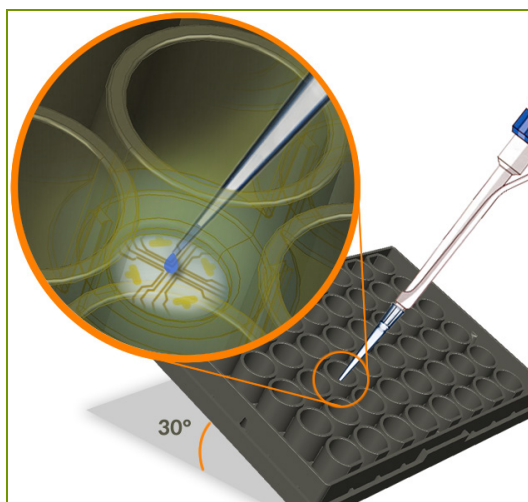

Figure 1: Example Droplet Placement
4. Tilt the 48-well MEA plate pre-coated with PEI solution at a 30 degree angle so that the bottom of all wells are visible (Figure 1). Pipette a 10 μ l/well droplet of 80 μ g/ml laminin pre-dot solution directly over the recording electrode area of each well. Incubate the 48-well MEA plate at 37°C for 30 minutes.
1. Thoroughly mix the cell suspension by gently inverting the tube 2 - 3 times. Tilt the 48-well MEA plate at a 30 degree angle so that the bottom of all wells are visible. Immediately dispense a 10 µl/well droplet of the cell suspension directly into the 10 µl/well droplet of laminin pre-dot solution, resulting in a final droplet size of 20 µl/well (Figure 1).